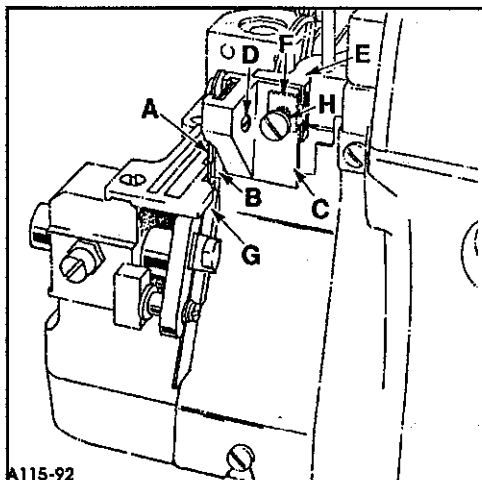

Fig. 16
Insert upper knife (A, Fig 16) and clamp bar (B) into upper knife holder (C) and snug screw (D). Turn handwheel in operating direction until upper knife driving arm (E) is at its lowest point of travel. Insert upper knife clamp nut (F) and upper knife holder (C) into upper knife driving arm slot holding it firmly against lower knife (G). Position the front cutting edge of the upper knife so it is $1/64$ " to $1/32$ " (.4mm to .8mm) below the cutting edge of the lower knife. Tighten screw (D). Slide upper knife holder (C) right or left until the desired seam width is achieved and tighten screw (H).